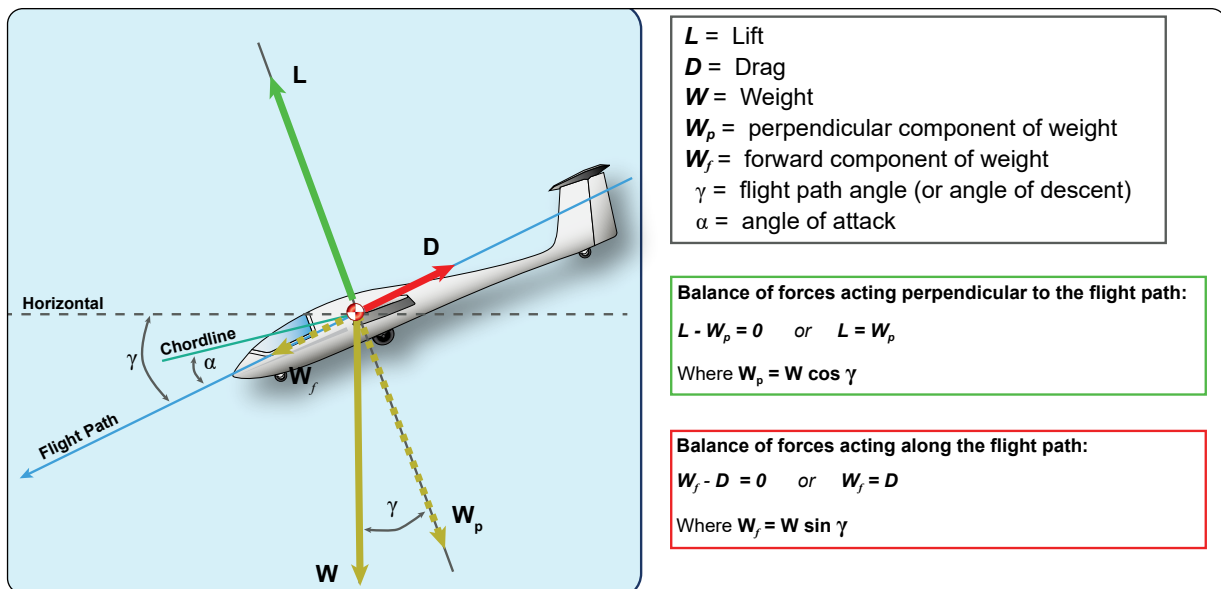

Figure 3-8. The forces along an unpowered glider's flight path and its perpendicular.
What propels an unpowered glider in a continuous descent in the surrounding airmass? A vector diagram with the flight path as one axis and a second axis perpendicular to the flight path depicts how the forces of weight, lift, and drag balance each other during an unpowered straight-line descent. [Figure 3-8] Weight (W) always points to the ground (center of the Earth). Lift (L) develops perpendicular to the flight path. Drag always acts backward along the flight path. While weight does not align with either axis on the diagram, the weight vector can resolve into two perpendicular components, one forward along the flight path opposing drag (W_f) and the other perpendicular to the flight path opposing lift (W_p). As shown in the figure, W_p balances lift, while W_f balances drag during an unaccelerated descent. Thus, gravity is the external engine that pulls the glider forward by acting on W_f .
An unpowered descent converts the glider's potential energy of height above the ground into kinetic energy of motion on a continuous basis. The flight path angle or angle of descent (γ) is the same as the angle between W_p and W . W_f , W_p , and W could form three sides of a right triangle. Trigonometry gives the W_f and W_p components of weight using the formulas shown within the balance of forces boxes in Figure 3-8. A steeper flight path angle (γ) increases the forward component of weight (W_f) and decreases the perpendicular component of weight (W_p).